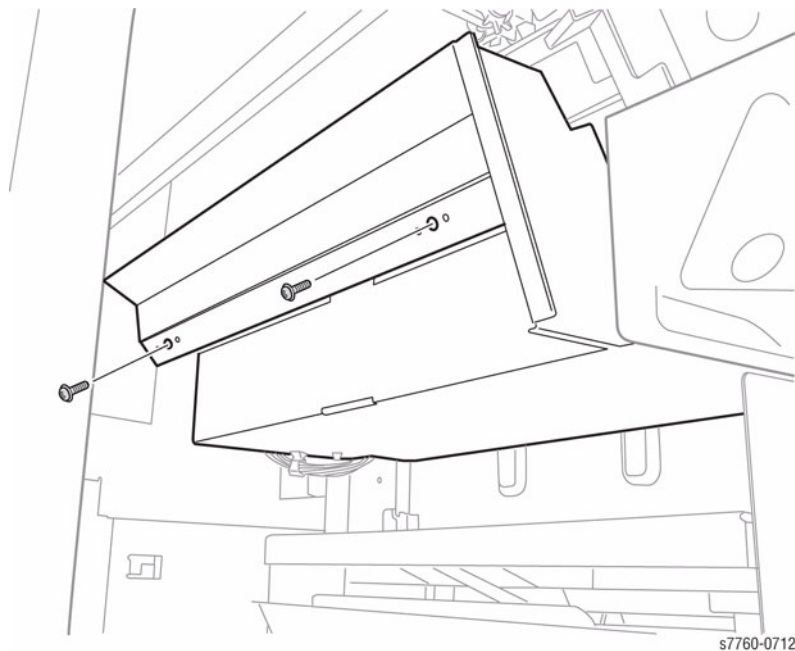

Figure 1 Removing Stapler Frame
3. Removing the Stapler Frame (Figure 1).